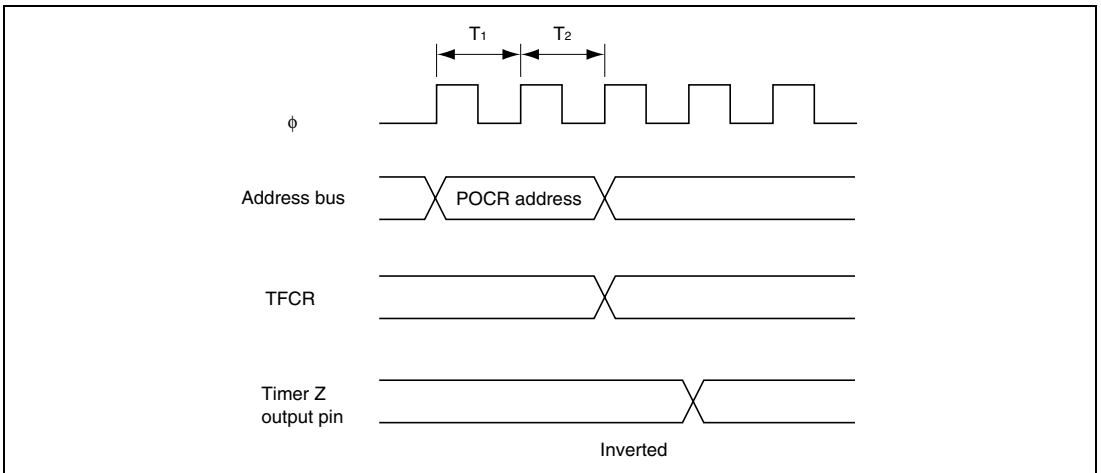

Figure 13.47 Example of Output Inverse Timing of Timer Z by Writing to POCR
- Output Inverse Timing by POCR: The output level can be inverted by inverting the POLD, POLC, and POLB bits in POCR in PWM mode. Figure 13.47 shows the timing.